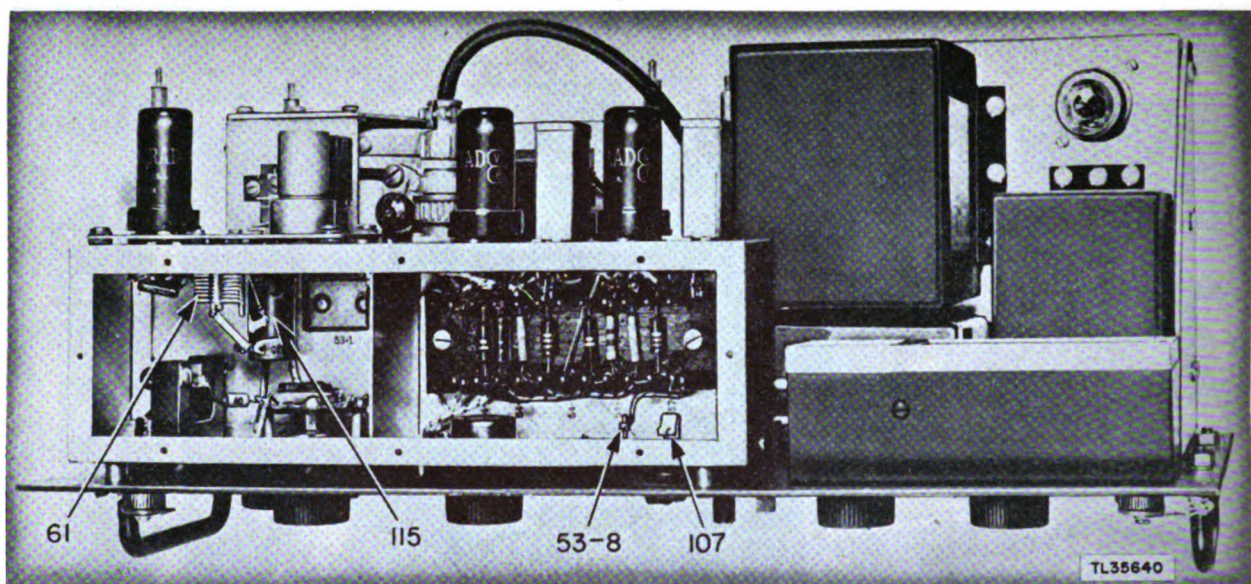

Figure 226. Signal Generator I-222-A, detector amplifier cover removed.
move the eight detector-amplifier cover mounting screws and slip the cover from the case. Disconnect the rubber covered cable, provided with an Amphenol fitting, from the detector-amplifier case. Remove the four knurled thumbnuts from the high-low frequency oscillator assembly and remove the cover from the case. Unsolder the terminal of capacitor 59-2 from the white-blue tracer wire. Unsolder the wire between jack 107 and spark plate 53-8 (see fig. 226). Remove the screw which fastens the braided ground strap to the detector-amplifier case. Remove the protective cap from the receptacle marked INPUT. With a No. 8 Allen wrench, loosen the setscrew on the TEST-CRYSTAL and AUDIO GAIN control knobs and remove them. Remove the five mounting screws; then take the case from the panel.
the detector-amplifier cover. Unsolder the connections to the capacitor. Remove the two small screws located between tubes No. 1 and No. 2 and remove the capacitor (see fig. 226). Replace in reverse order.
*g.* To remove tank coil 115, remove the cover of the detector-amplifier assembly (see fig. 226). Remove the screw which fastens the coil to the case. Unsolder the wire at the coil terminal. Remove the coil. Assemble in reverse order.